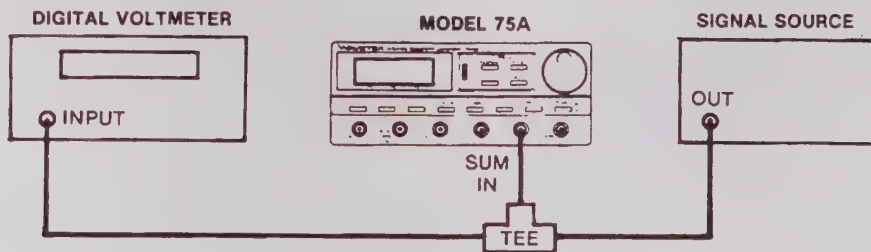

Figure 5-6. SUM IN Verification Equipment Connection
- Interconnect the Model 75A and test equipment as shown in figure 5-6.